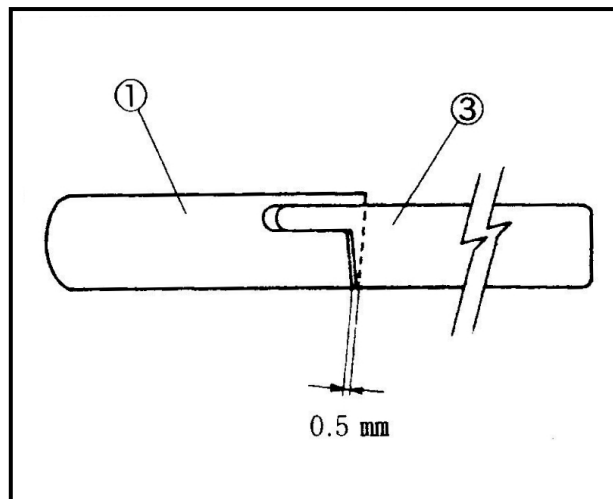
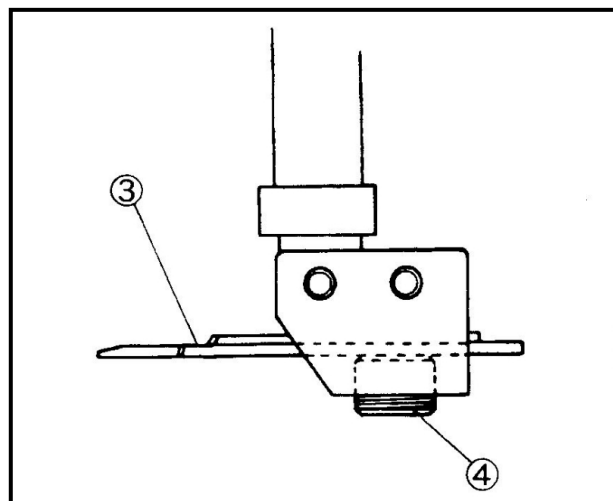

Fig.30
Fig.31
- (1) 底刀①的標準位置要留距離在底刀①尖端和鎖底刀座②之間 0-0.5mm。(Fig.30)
- (2) 當上刀③在最左邊時，上刀③和底刀①要有 0.5mm 的重疊。
- (3) 放鬆螺絲④和⑤去調整上刀和底刀。
(Fig.31 , 32)
- (1) For the standard position of the lower knife①, make the distance between the lower knife① tip and the lower knife clamp② to 0-0.5 mm. (Fig. 30)
- (2) For the standard position of the upper knife③, engage between the upper knife③ and lower knife① to 0.5 mm when the upper knife③ is at the extreme left.
- (3) Loosen the screws④ and ⑤ to adjust the lower and upper knives respectively.(Fig.31 , 32)